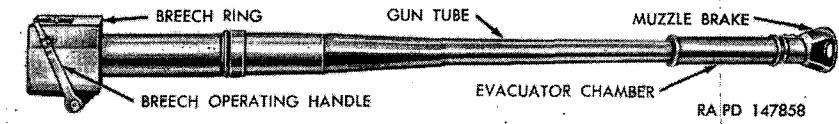

Figure 337. 90-mm gun T119E1—right side view.
- (1) The 90-mm gun T119E1 (fig. 337) is a light artillery weapon. It uses fixed ammunition which is loaded into the gun man-